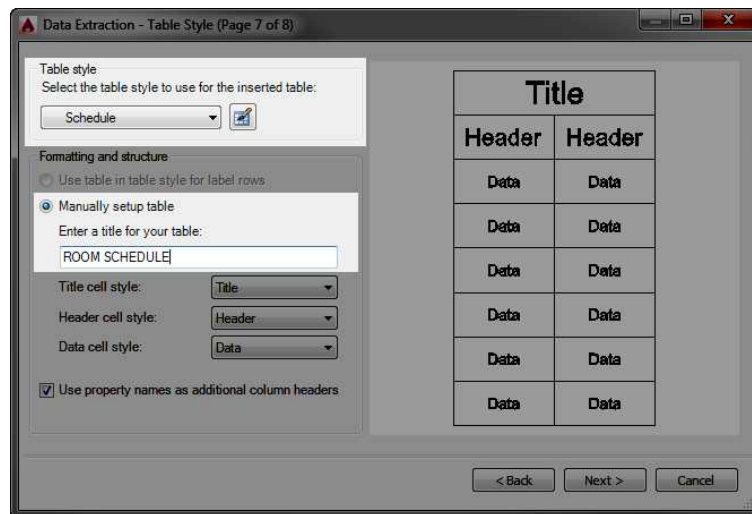

FIGURE 9.78: Picking the table style to be used and entering a title for the table
18. Verify that the Schedule table style is selected in the Table Style group of the screen, and then enter **ROOM SCHEDULE** in the Enter A Title For Your Table text box (see Figure 9.78). Click Next to continue.